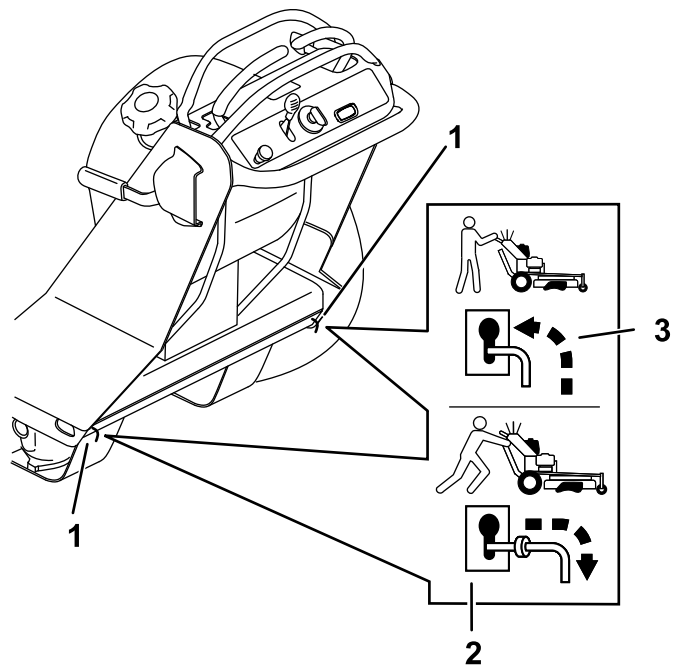

Figure 66
4. Move both bypass levers rearward through the key hole and down to lock them in place (Figure 66).
7. Shut off the engine and move the bypass levers forward through the keyhole and down to lock them in place (Figure 66).